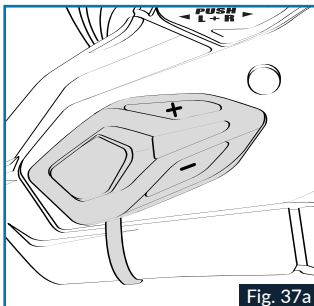
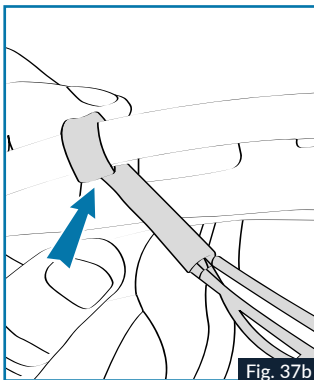

Fig. 37a
Fig. 37b
6. Affix the main keypad to the defined location (Fig. 37a), using the double-sided tape provided on the keypad, insert the flat cable between the shell and the polystyrene cheek piece to the left of the clip lining (red part) as shown in Fig. 37b.